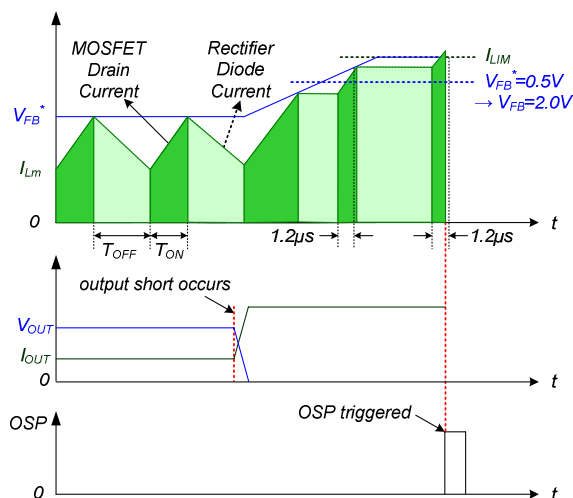

Figure 22. Output-Short Protection
**4.3. Output-Short Protection (OSP):** If the output is shorted, steep current with extremely high di/dt can flow through the SenseFET during the minimum turn-on time. Such a steep current brings high-voltage stress on the drain of the SenseFET when turned off. To protect the device from this abnormal condition, OSP is included. It is comprised of detecting  $V_{FB}$  and SenseFET turn-on time. When the  $V_{FB}$  is higher than 2V and the SenseFET turn-on time is lower than 1.2 $\mu$ s, the FSGM0565RB recognizes this condition as an abnormal error and shuts down PWM switching until  $V_{CC}$  reaches  $V_{START}$  again. An abnormal condition output short is shown in Figure 22.